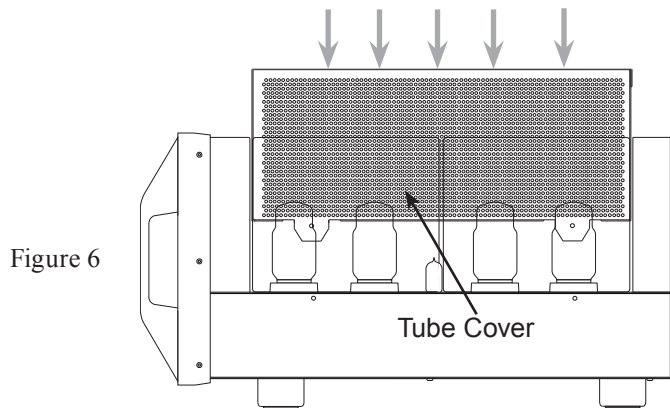

Figure 6
6. Carefully reinstall the previously removed Tube Covers and chassis screws on both sides of the MC2301. Make sure the metal tabs located on the bottom of the Tube Cover are inserted into the chassis slots. Refer to figures 6, 7 and 8.